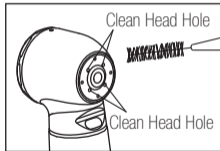

Fig. 4
- 1) Scrub dirt and debris from the handpiece. (Fig. 4)